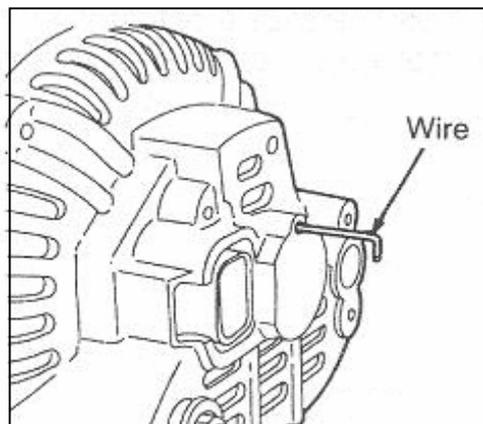

Fig. 9-37
- (1) Regulator installation (see Fig. 9-37, 9-38)